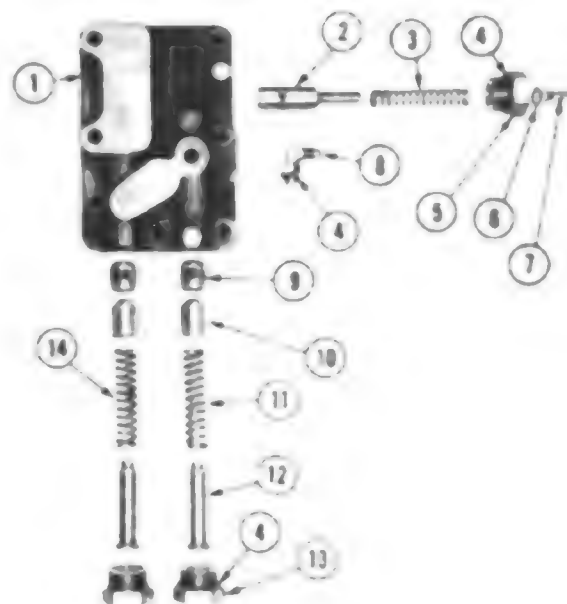

Fig. 130 - Exploded view of the multi-valve assembly.
**105. MULTI-VALVE.** The multi-valve (Fig. 130) contains the minimum (80 psi) pressure relief valve, maximum (180 to 240 psi) pressure relief valve and the oil cooler by-pass valve. To disassemble the unit, remove plugs (13), then withdraw guide pins (12), maximum relief spring (14), poppet valves (10) and valve bushings (9). Remove plug (5) with pin (7), spring (3) and oil cooler by-pass valve (2). Clean and inspect all parts and renew any showing excessive wear or other damage. All parts are serviced separately. Lubricate with clean "Hy-Tran" fluid and reassemble by reversing disassembly procedure.